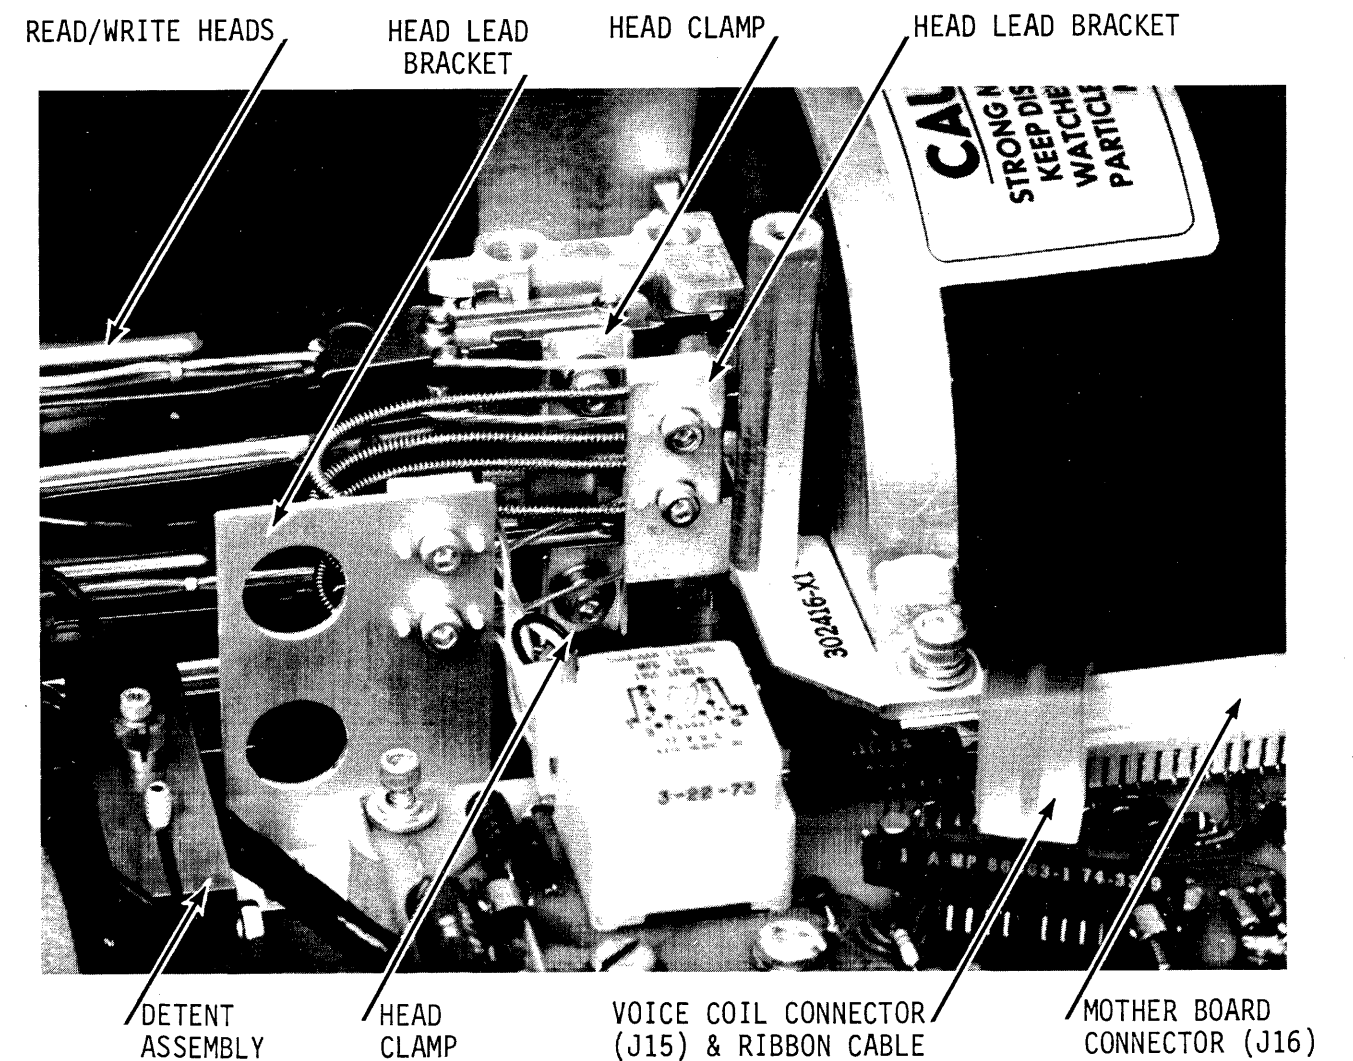

Figure 7-16. Read/Write Heads
7.5.16 Read/Write Heads (Refer to Figure 7-16)